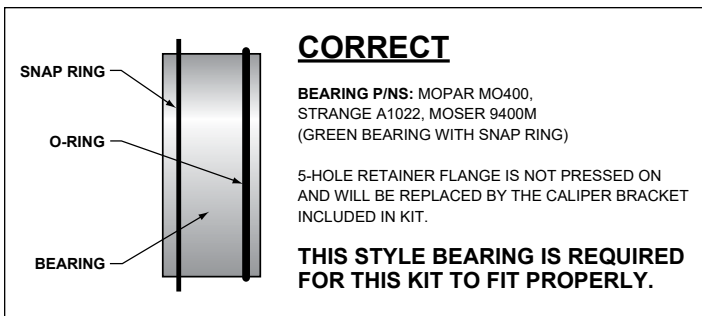
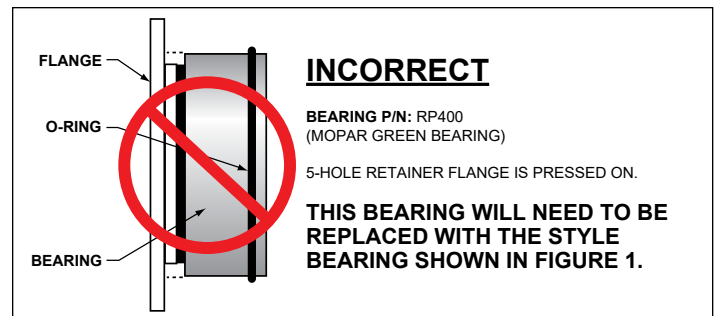

Figure 1. Snap Ring Bearing Configuration
Figure 2. Press Fit Bearing Configuration
- There are two types of “Green Bearings” being supplied by axle manufacturers. Your setup should look like Figure 1 (below left), not the Figure 2 configuration, otherwise this kit will not fit.
- Determine that the appropriate snap ring style Green bearing has been installed on the axle, as shown in Figure 1.